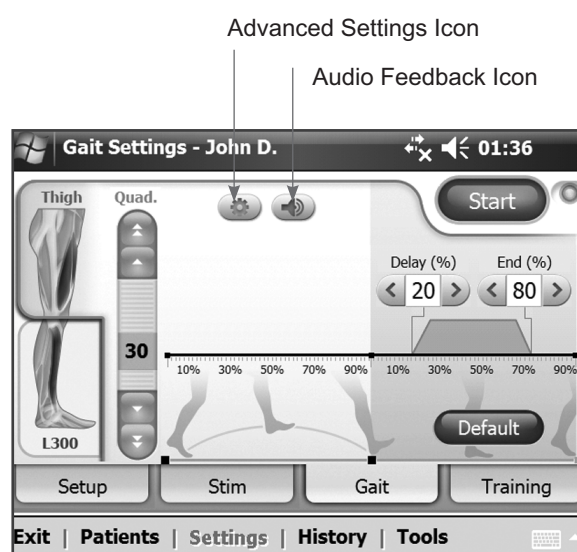

Figure 7-27: Gait Settings window, Thigh Quadriceps.
1. Press the **Gait tab** and the **Thigh tab** to open the Gait Settings window. See Figure 7-27.